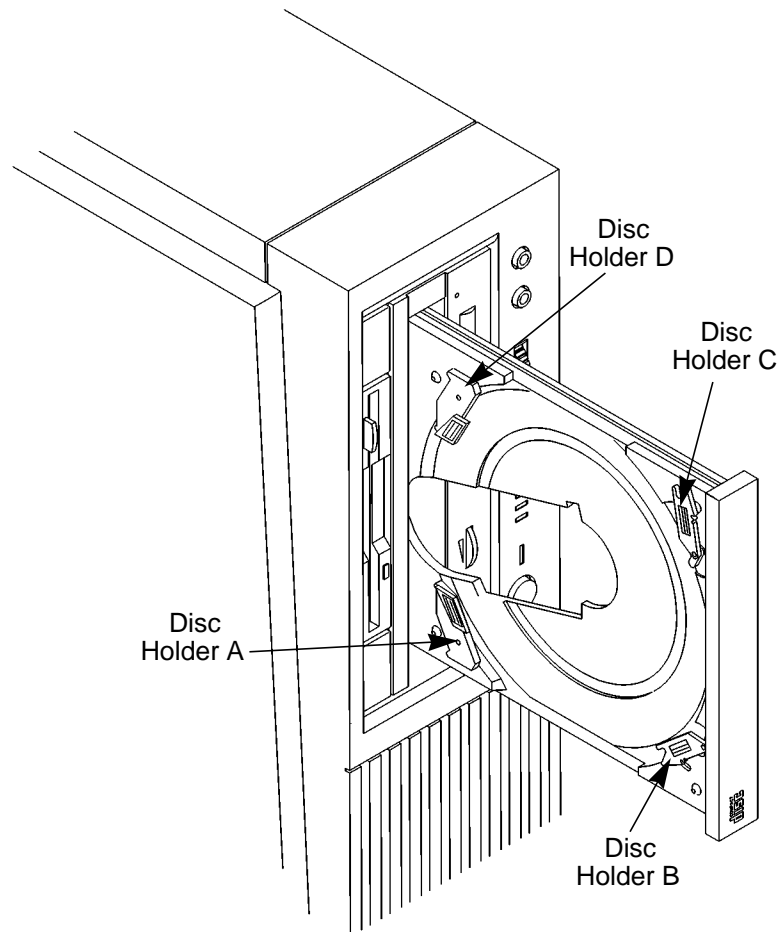

Figure 7
- 1 Make sure the three disc holders are disengaged from the disc holder retainers, as shown in Figure 7.